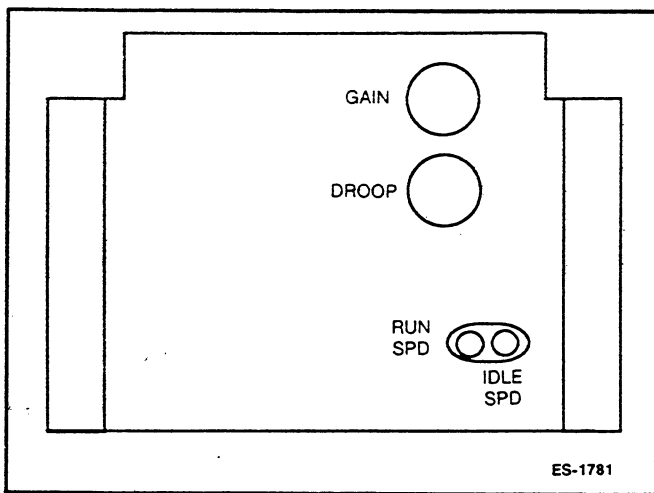

FIGURE 8-3. ELECTRIC GOVERNOR
Generators which are to operate at 60 Hz full load, must have the engine no-load governed speed adjusted to; (see Figure 8-3):
For generators which are to operate at 50 Hz full load, the engine no-load governed speed must be adjusted to; (see Figure 8-3):
For isochronous operation, the droop potentiometer (see Figures 8-3 and 8-4) must be turned fully counterclockwise and will not require any further adjustment.
2. Make sure the engine speed is constant. If the engine speed is constant, turn the Gain potentiometer (see Figures 8-3 and 8-4) clockwise slowly until the engine speed is not constant.